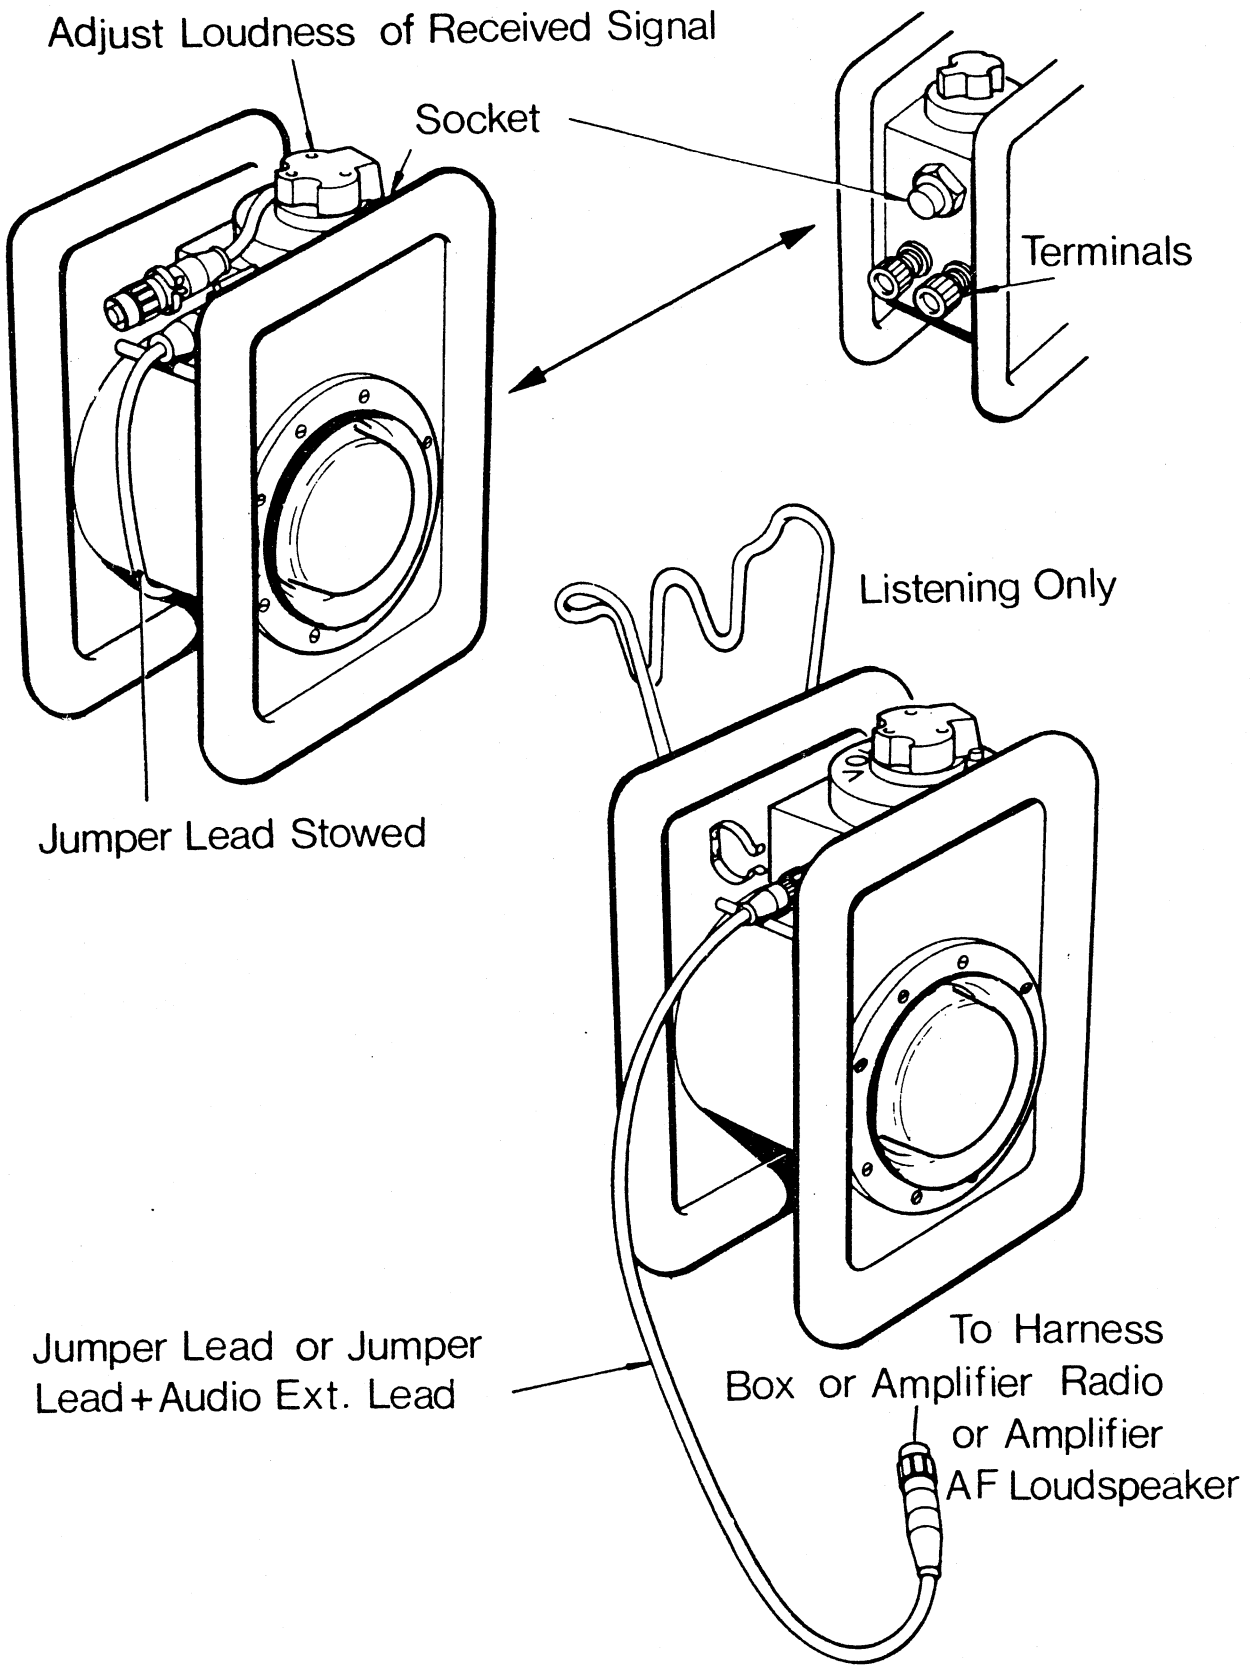

Fig 9.—Loudspeaker Free Standing for Monitoring
a. **For monitoring (see Fig 9).**